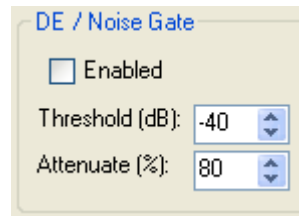

Figure 133: DE/Noise Gate
4. Decrease the **Attenuate(%)** (see Figure 133 above) slowly until you can just start to hear your background noise. Then lower it a little more (about 5%-10% is a good starting point) to provide more of a soft knee between your voice level transitions.